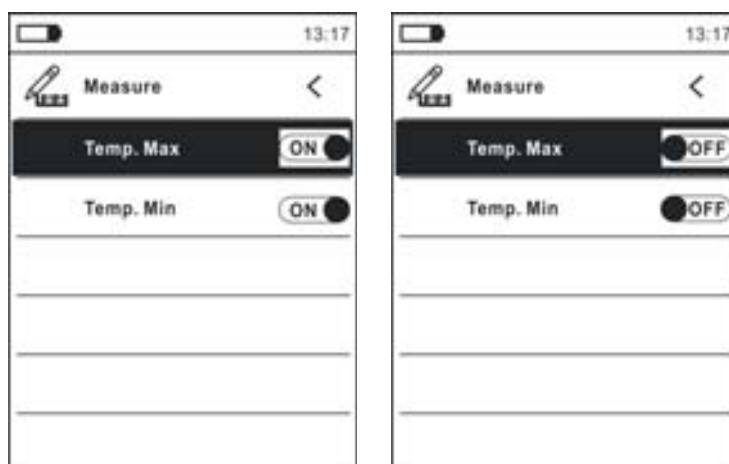

Fig. 13: Measurement Menu
9. Select item “Measure” and press key or **▶** to enable activation/deactivation of the cursors associated with the “hottest” or “coldest” spots in the thermographic image (see Fig. 13).